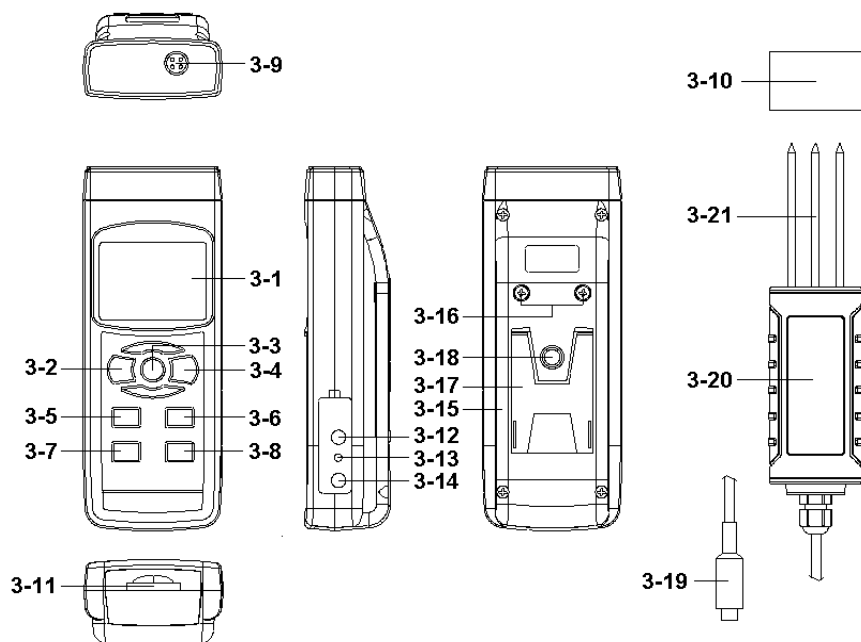

Fig. 1
(3-2, Fig. 1) > 3 seconds continuously.
- 2) Install the " Probe Plug " (3-19, Fig. 1) into the
" Probe Input Socket " (3-9, Fig. 1).
stainles 4pin " soil Sensor " (3-21, Fig. 1) into soil about 4 cm
During the measurement, press the " Hold Button " (3-3, Fig. 1) once will hold the measured value & the LCD will display a " HOLD " symbol.
- 1) The data record function records the maximum and minimum readings. Press the " MAX/MIN Button " (3-4, Fig. 1) once to start the Data Record function and there will be a " REC " symbol on the display.
- a) Press the " MAX/MIN Button " (3-4, Fig. 1) once, the " REC MAX " symbol along with the maximum value will appear on the display.
- b) Press the " MAX/MIN Button " (3-4, Fig. 1) again, the " REC MIN " symbol along with the minimum value will appear on the display.
- c) Press the " MAX/MIN Button " (3-4, Fig. 1) again, the " MIN " symbol will be disappeared, LCD only show the " REC " symbol, the meter start the Data Record function again.
- 3) To exit the memory record function, just press the " MAX/MIN Button " (3-4, Fig. 1) > 3 seconds continuously. The display will revert to the current reading.
- 1) After power ON, the " LCD Backlight " will light automatically. During the measurement, Push the " Backlight Button " (3-2, Fig. 1) once , will turn OFF the " LCD Backlight ".
Prepare a " SD memory card " (1 G to 16 G, optional), insert the SD card into the " SD card socket " (3-11, Fig. 1). The front panel of the SD card should face against the the down case.
Press the " LOG Button (3-8, Fig. 1) > 3 seconds continuously, the upper LCD show symbol of " LOGGER " then " SAVE " symbol will flashing per sampling time, at the same time the measuring data along the time information will be saved into the memory circuit.
During execute the Datalogger function, if press the " LOG Button " (3-8, Fig. 1) once will pause the Datalogger function (stop to save the measuring data into the memory circuit temporally). In the same time the the " SAVE " symbol will stop flashing, the upper LCD will show the text of " LOGGER ".
If press the " LOG Button " (3-8, Fig. 1) once again will execute the Datalogger again, the " SAVE " symbol will flashing.
During execute the Datalogger function, press the " LOG Button (3-8, Fig. 1) > 3 seconds continuously again will finish the Datalogger function, the " LOGGER " symbol will be disappeared and finish the Datalogger.
Press the " LOG Button (3-8, Fig. 1) > 3 second , the upper LCD will show the " Position no. " , then press the " LOG Button " (3-8, Fig. 1) once, the " LOGGER " symbol will flashing once and Beeper will sound once, at the same time the measuring data along the time information will be saved into the memory circuit.
*During execute the Manual Datalogger, it can use the " ▲ Button " (3-5, Fig. 1) or " ▼ Button " (3-6, Fig. 1) to set the measuring position (1 to 99, for example room 1 to room 99) to identify the measurement location , the lower Display will show $P \times$ ($x = 1$ to 99).
During execute the Datalogger function, press the " LOG Button (3-8, Fig. 1) > 3 seconds continuously again will finish the Datalogger function, the Position no. " PXX " will be disappeared and finish the Datalogger. function.
During the normal measurement (not execute the Datalogger), If press " Clock Button " (3-7, Fig. 1) once , the LCD display will present the time information of Year/Month, Date/Hour, Minute/Second and the Sampling time information in same time.